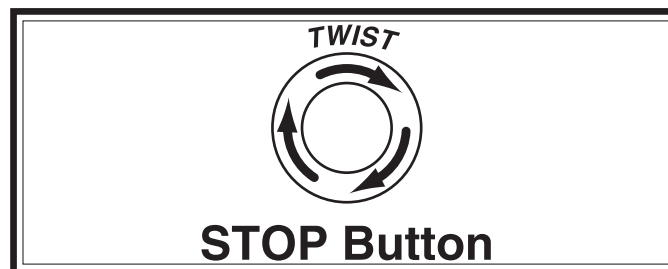

Figure 31. Resetting the switch.
6. Twist Emergency Stop button clockwise until it springs out (see **Figure 31**). This resets the switch so the machine can start.